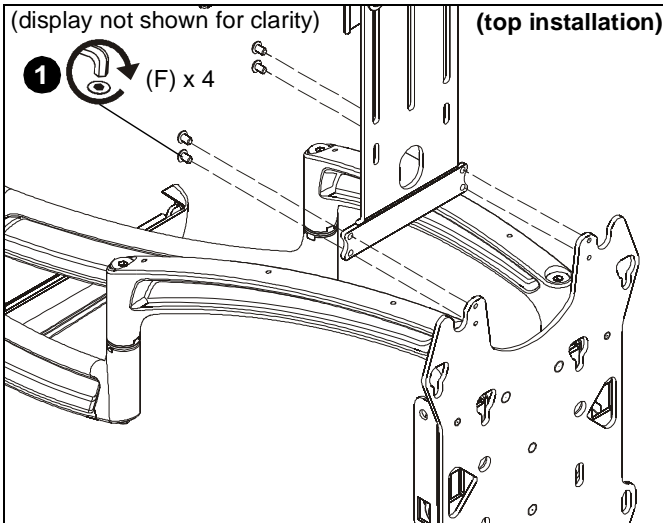
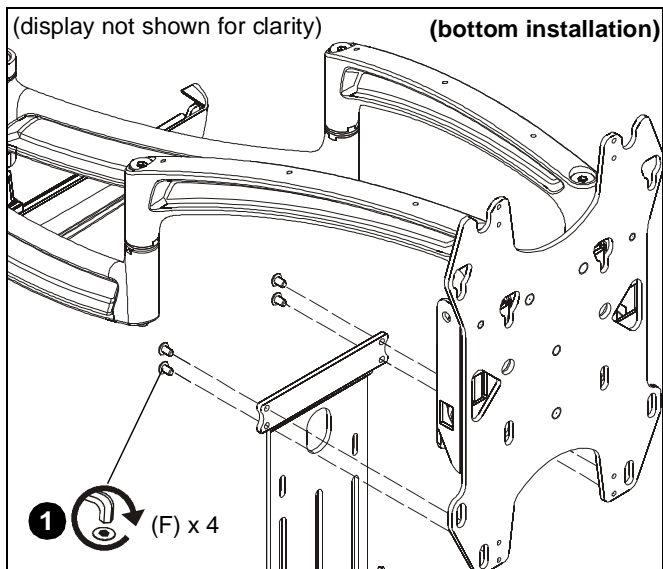

Figure 5
Figure 6
1. Use four #10-24 x 3/8" button head cap screws (F) to connect attachment bracket (A) to upper or lower holes on swing arm faceplate. (See Figure 5) and (See Figure 6)